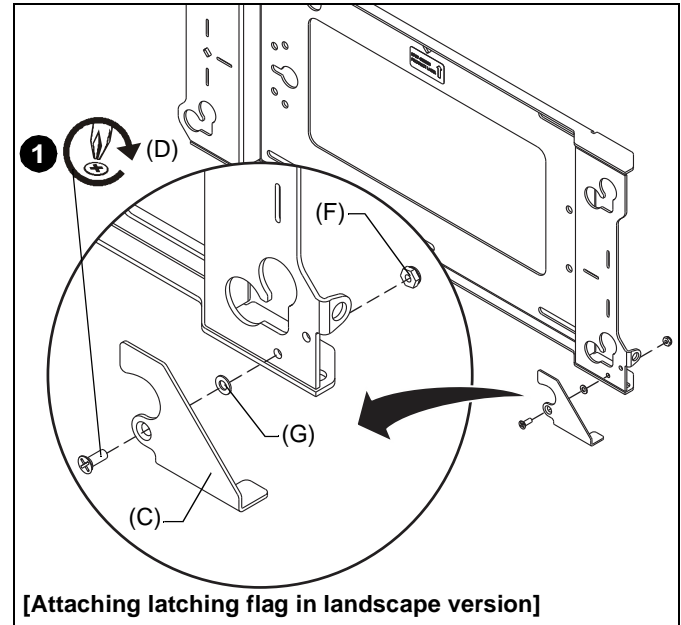

Figure 2
1. Install latching flag (C) using one 10-24 x 1/2" flat head Phillips screw (D), one spacer (G), and one 10-24 lock nut (F). (See Figure 2)